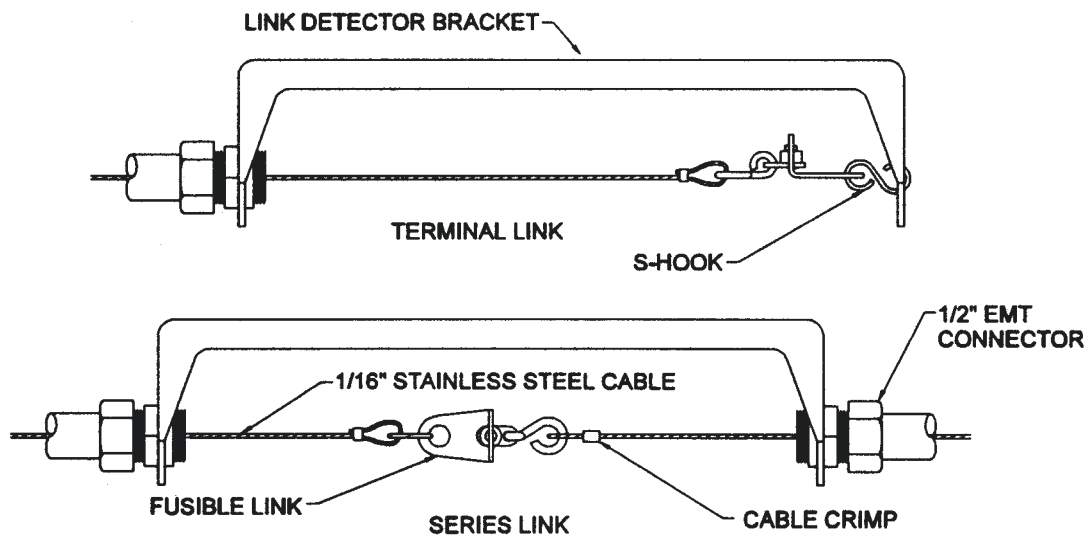

Figure 2-9. Model FLK-1 Fusible Link
The Model FLK-1 fusible link kit includes a 10" steel bracket, two (2) 1/2" EMT connectors, two (2) cable crimps, and two (2) "S" hooks. Fusible links must be ordered separately. See **Figure 2-9**.